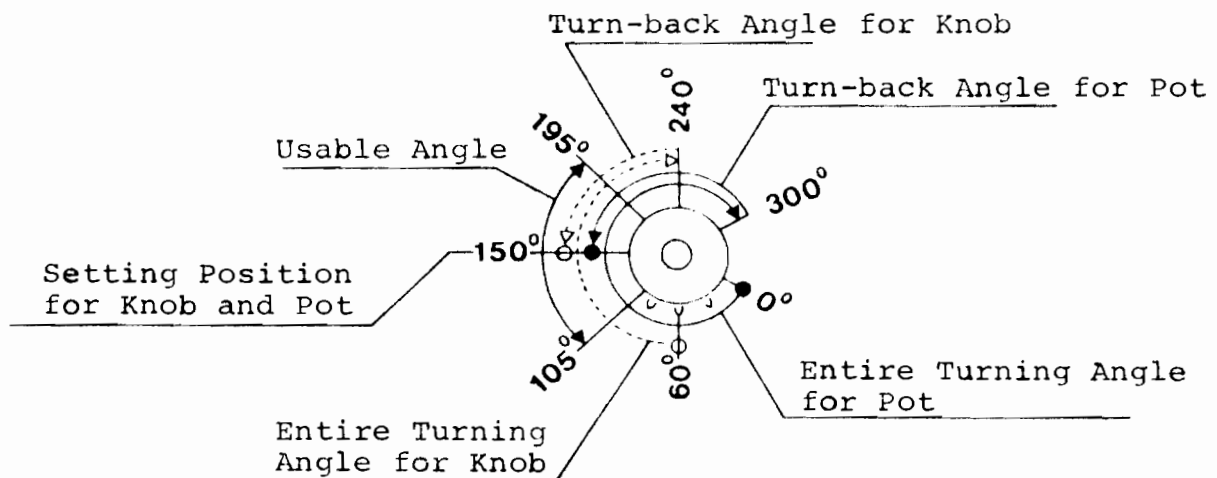

Fig. 7
10. Replacement of Control Knob Potentiometer (See Fig. 7)